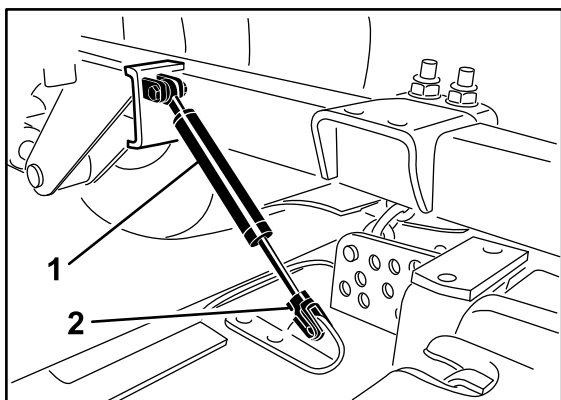

Figure 90
2. Remove the retainer clip and disconnect the damper assembly from the cutting unit (Figure 90).